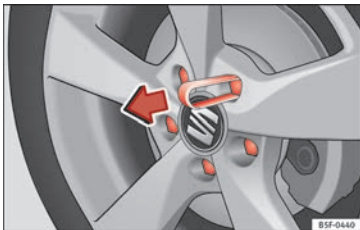

Fig. 65 Clip for removing the wheel bolt caps
- Fit the plastic clip (vehicle tools) over the cap until it clicks into place » **Fig. 65**.